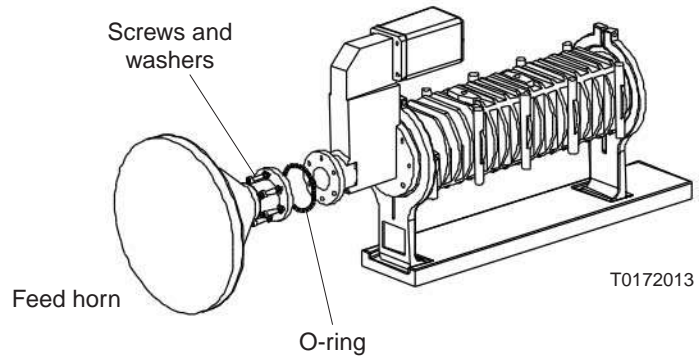

Figure 34: Attaching the feed horn and radio assembly
**Attaching the feed horn** To attach the feed horn to the radio assembly, refer to Figures 34 and 35 and follow steps 1 through 4 in this section.
3. Insert the six socket-head cap screws through the flange on the small end of the feed horn and into the matching flange on the radio assembly. See Figure 34.